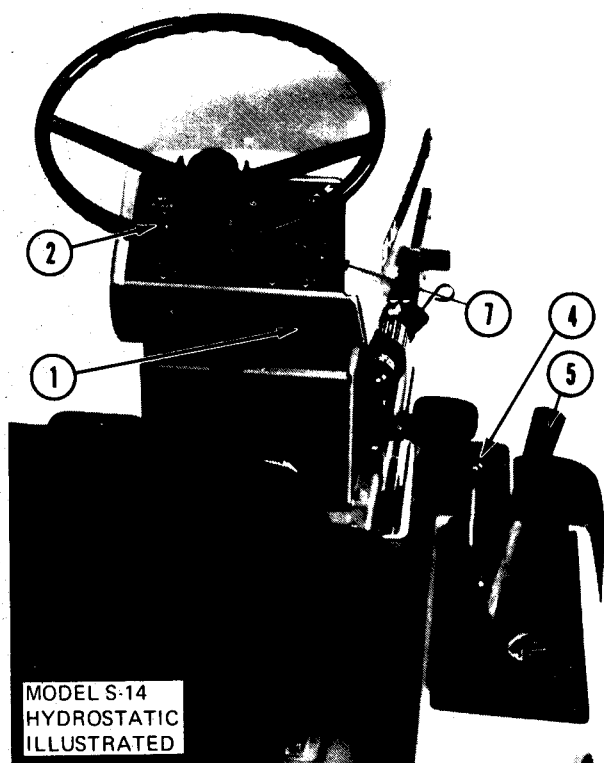

FIGURE 12
On the S-14 and S-16 tractors with the hydraulically operated lift (4) Figure 12, raise the attachment by moving the control lever to the UP position. The sno-thro may be held in any position desired by allowing the lever to stay in the "hold" position. While operating the sno-thro, the lever should be moved to the "float" position, to permit the attachment to follow the contour of the ground.
4. For maximum snow removal and discharge operate the engine at full throttle and regulate the travel speed with the hydrostatic control lever and/or shift lever (5) Figure 12 and 13.
3. Lower the sno-thro and start the auger rotating by pulling the implement power control switch (1) Figure 12, "out" with the engine running at $\frac{1}{2}$ fast throttle (7) Figure 12. Increase engine speed to full throttle after the sno-thro auger is rotating.